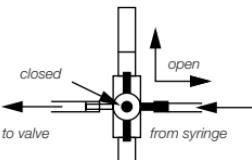

Fig. 9
- a) Turn the three-way faucet as shown in fig. 9 and fill the manometer to at least 5 cmH₂O.
- b) Turn the three-way faucet as shown in fig. 9 and fill the manometer to 10 cmH₂O above the expected opening pressure. (Example: For testing a paedIGAV with an opening pressure setting of 5 cmH₂O horizontal and 30 cmH₂O vertical, the manometer is filled to 15 cmH₂O with the shunt in a horizontal position and to 40 cmH₂O with the shunt in a vertical position.)